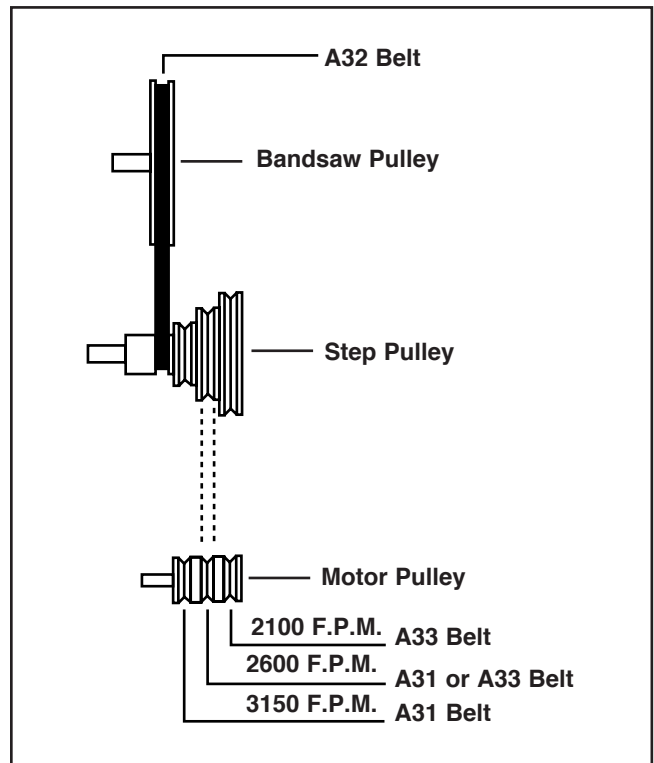

Figure 16. Pulley speed chart.
4. Slip either the 31" or 33" belt over the motor pulley and the step pulley, depending on the desired speed. For general woodworking, we recommend setting the lower belt for the fastest rate of speed. See **Figure 16** for speeds.